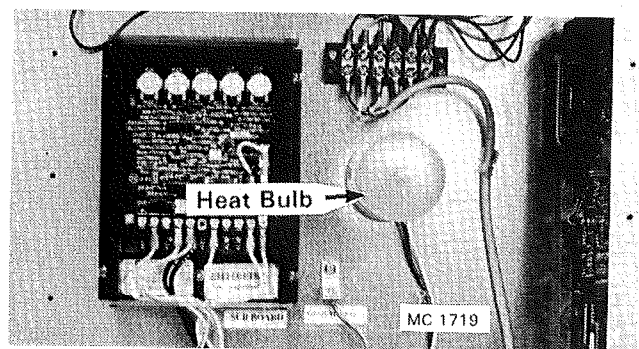

Figure 31
1. The heat bulb in the remote control cabinet, Figure 31, will always be on when the electric power supply to the dryer is on. It does not have an ON-OFF switch.